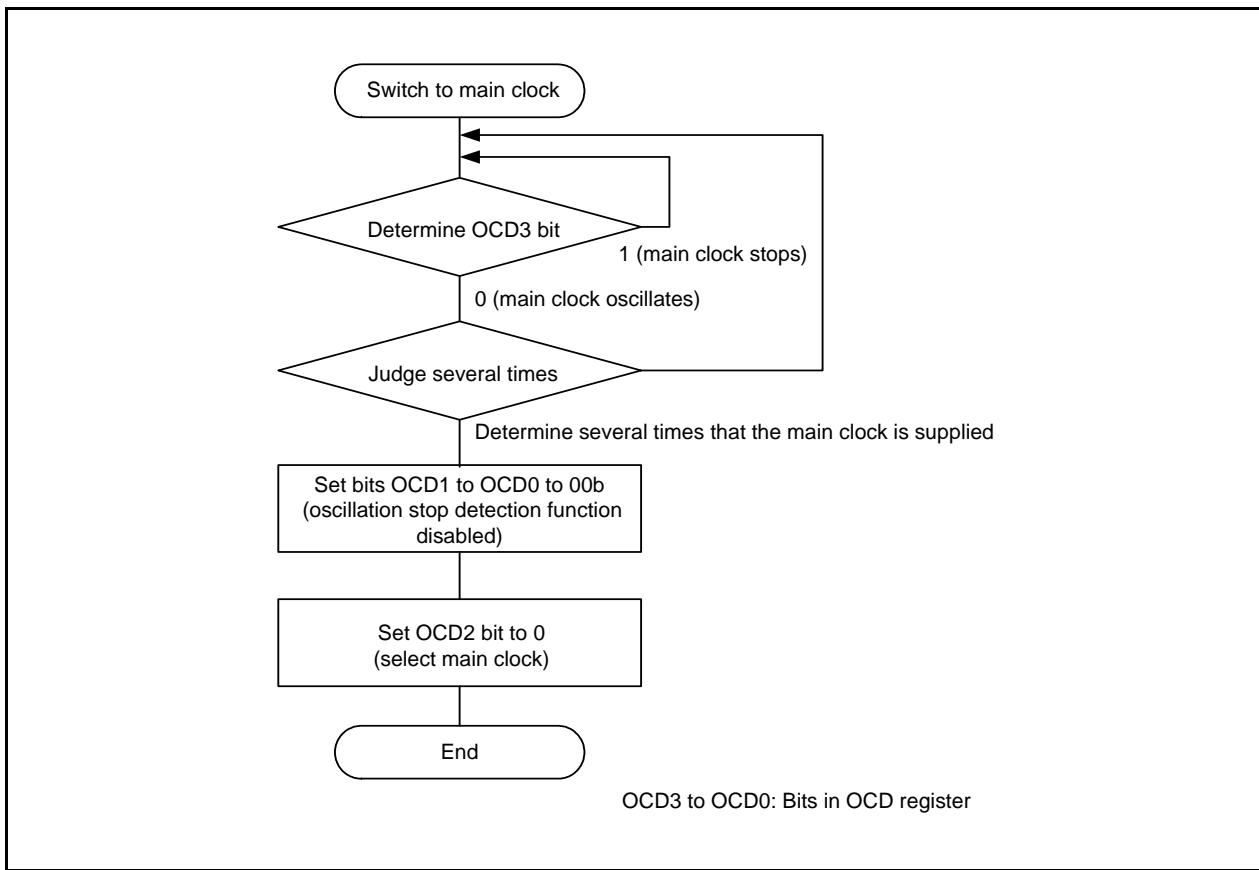

Figure 10.9 Procedure for Switching Clock Source from Low-Speed On-Chip Oscillator to Main Clock
- Figure 10.9 shows the Procedure for Switching Clock Source from Low-Speed On-Chip Oscillator to Main Clock.